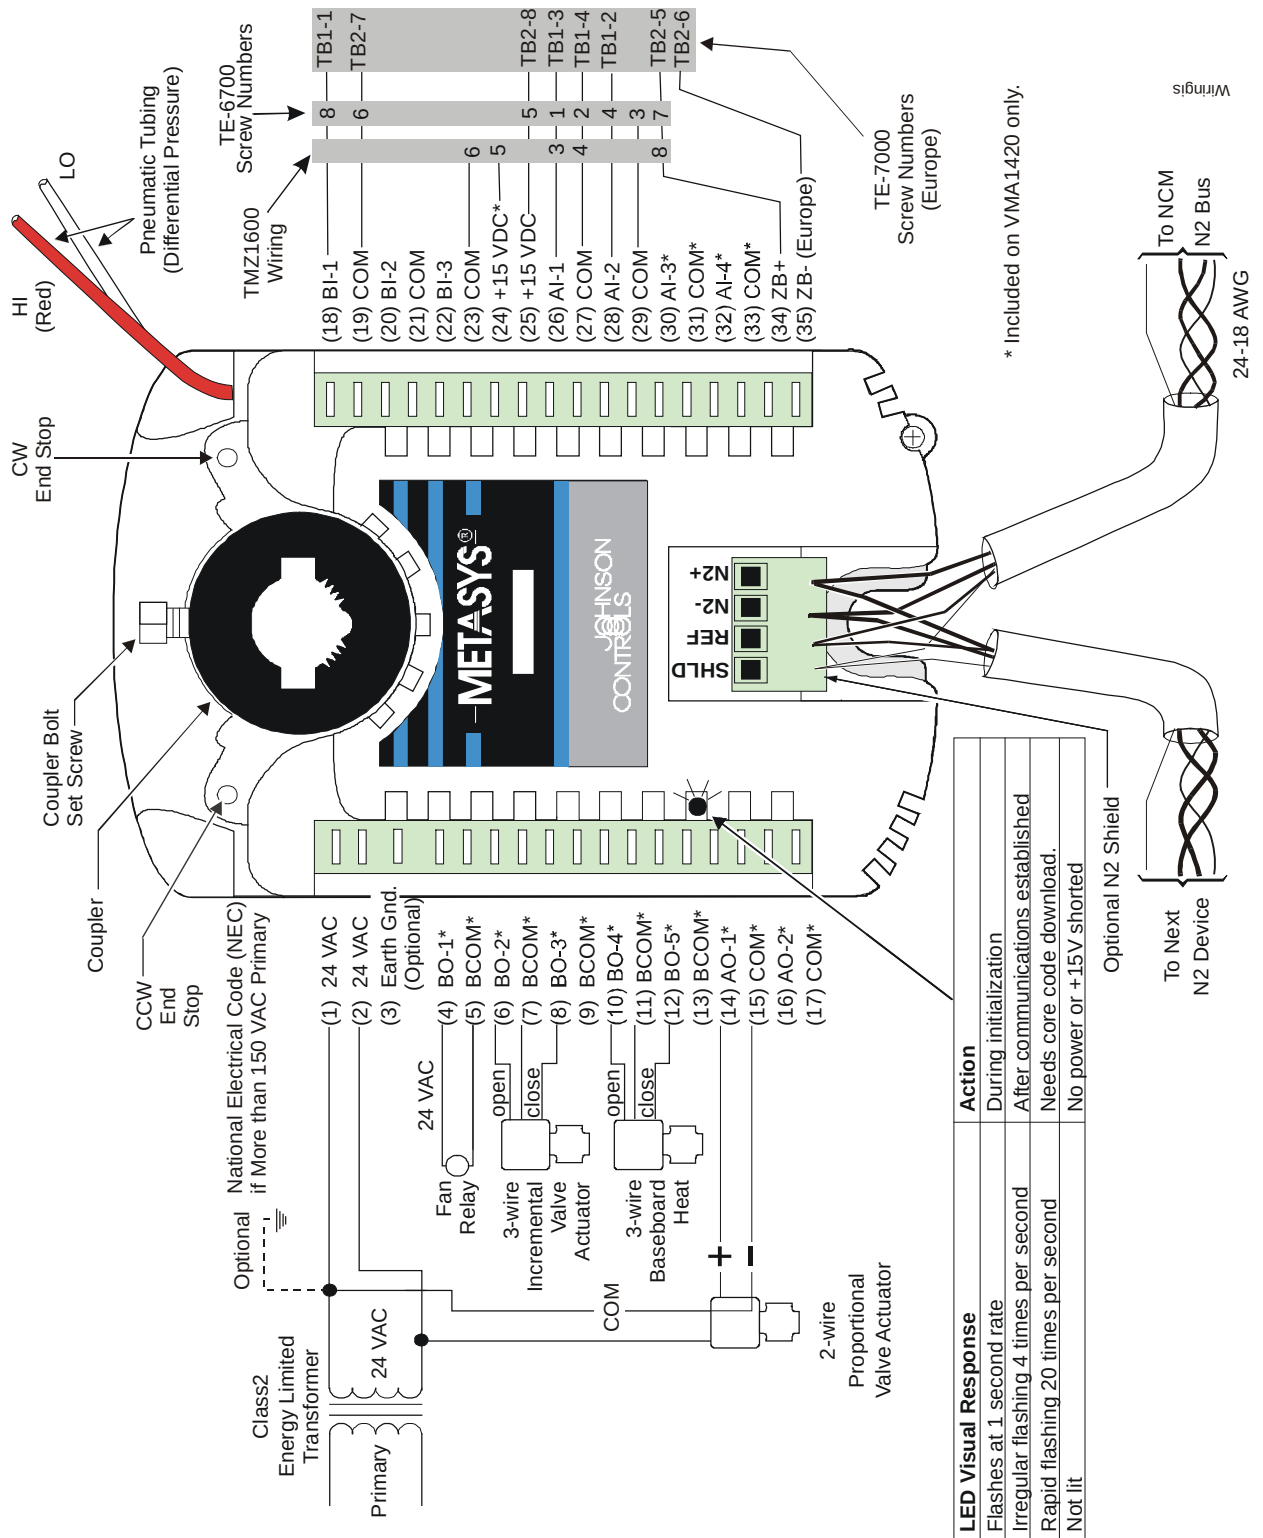

Figure 3: Typical VMA1410/1420 Wiring Interface
9. Loop the pneumatic tubing to include a trap for condensation. Attach the tubing from the VMA to the VAV box pickup. The HI (red) tubing is connected to the inlet or high-pressure side and the clear tubing to the low side (see Figure 3).
2. Install the N2 Bus to the Network Control Module (NCM) or N30/N31 controller in a daisy chain only (see Figure 3).